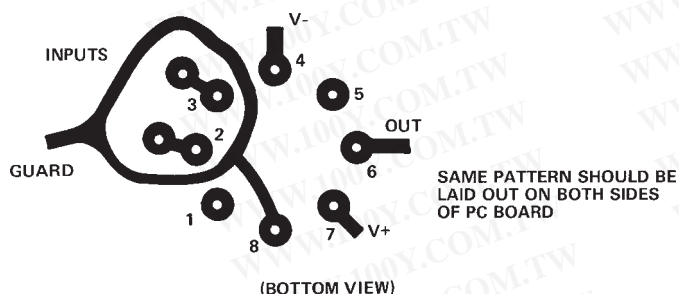
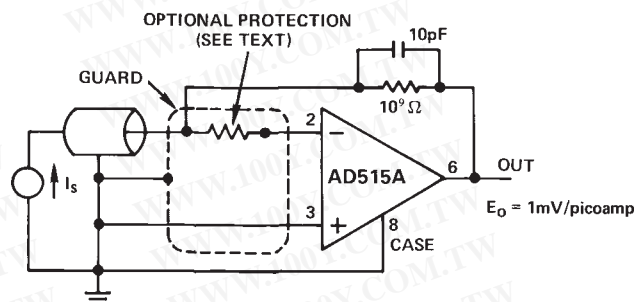

Figure 1. Board Layout for Guarding Inputs with Guarded TO-99 Package
Figure 2. Picoampere Current-to-Voltage Converter Inverting Configuration
2. The use of guarding techniques is essential to realizing the capability of the ultralow input currents of the AD515A. Guarding is achieved by applying a low impedance bootstrap potential to the outside of the insulation material surrounding the high impedance signal line. This bootstrap potential is held at the same level as that of the high impedance line; therefore, there is no voltage drop across the insulation and, hence, no leakage. The guard will also act as a shield to reduce noise pickup and serves an additional function of reducing the effective capacitance to the input line. The case of the AD515A is brought out separately to Pin 8 so it can also be connected to the guard potential. This technique virtually eliminates potential leakage paths across the package insulation, provides a noise shield for the sensitive circuitry and reduces common-mode input capacitance to about 0.8 pF. Figure 1 shows a proper printed circuit board layout for input guarding and connecting the case guard. Figures 2 and 3 show guarding connections for typical inverting and noninverting applications. If Pin 8 is not used for guarding, it should be connected to ground or a power supply to reduce noise.
3. Printed circuit board layout and construction is critical for achieving the ultimate in low leakage performance that the AD515A can deliver. The best performance will be realized by using a teflon IC socket for the AD515A; at a minimum a teflon standoff should be used for the high impedance lead. If this is not feasible, the input guarding scheme shown in Figure 1 will minimize leakage as much as possible; the guard ring should be applied to both sides of the board. The guard ring is connected to a low impedance potential at the same level as the inputs. High impedance signal lines should not be extended for any unnecessary length on a printed
Many instrumentation situations, such as flame detectors in gas chromatographs, involve measurement of low level currents from high voltage sources. In such applications, a sensor fault condition may apply a very high potential to the input of the current-to-voltage converting amplifier. This possibility necessitates some form of input protection. Many electrometer type devices, especially CMOS designs, can require elaborate Zener protection schemes that often compromise overall performance. The AD515A requires input protection only if the source is not current limited and, as such, is similar to many JFET-input designs. The failure mode would be overheating from excess current rather than voltage breakdown. If the source is not current limited, all that is required is a resistor in series with the affected input terminal so that the maximum overload current is 0.1 mA (for example, 1 MΩ for a 100 V overload). This simple scheme will cause no significant reduction in performance and give complete overload protection. Figures 2 and 3 show proper connections.
The conductor-to-shield capacitance of coaxial cable is usually about 30 pF/foot. Charging this capacitance can cause considerable stretching of high impedance signal rise time, thus canceling the low input capacitance feature of the AD515A. There are two ways to circumvent this problem. For inverting signals or low level current measurements, the signal is carried on the line connected to the inverting input and shielded (guarded) by the ground line as shown in Figure 2. Since the signal is always at virtual ground, no voltage change is required and no capacitances are charged. In many circumstances, this will destabilize the circuit; if so, capacitance from output to inverting input will stabilize the circuit.
Figure 2 shows a standard low level current-to-voltage converter. To obtain higher sensitivity, it is obvious to simply use a higher value feedback resistor. However, high value resistors above $10^9 \Omega$ tend to be expensive, large, noisy and unstable. To avoid